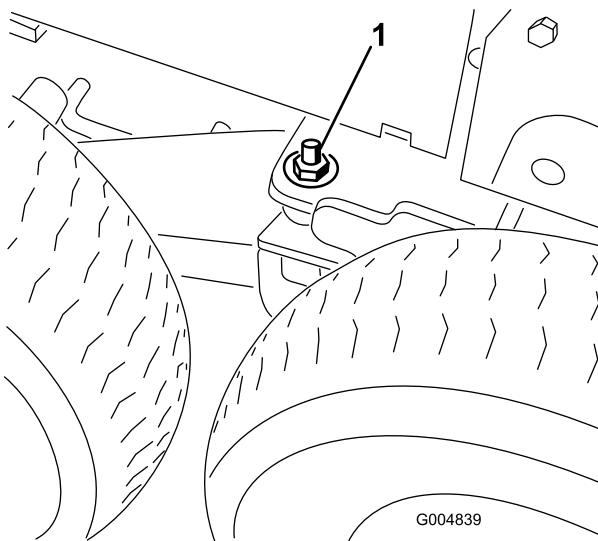

Figure 134
3. Loosen and remove the locknut and flat washer from the bogie pivot weldment (Figure 134).
6. Lower the floor jack until the front wheels support the frame. Install the flat washers (1/2 inch) and locknuts on the bogie pivot stud (Figure 134). and torque to 102 N·m (75 ft-lb).